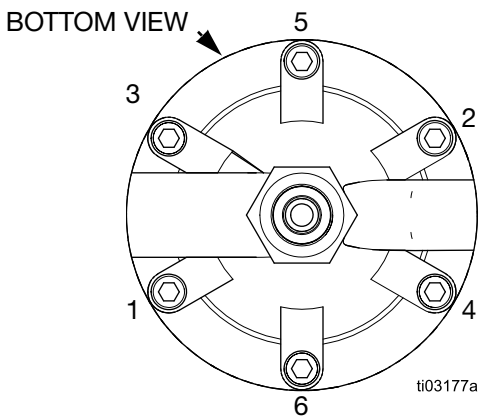

FIG. 5
6. Remove the swivel union (23) and spring (40) from the regulator body.
7. Remove the ball (20), valve seat (16), and gasket (15). See FIG. 5.
15. Torque the jam nut (13) onto the stem housing (18) to 21 -35 ft-lb (28 -47 N•m).
16. Install the valve stem (9), spring (3), gasket (21) and retaining screw (10) in the stem housing (18). Make sure the tab on the valve stem (9) fits into the slot on screw (10).
17. Torque the retaining screw (10) into the housing to 21 -25 ft-lb (28 -34 N•m).
18. Install the spring, adjusting screw (12) and cap on the housing (6). Tighten six capscrews (1) in the sequence shown in FIG. 5, **Bottom View**, and to the torque noted.
19. Install the gasket (15), valve seat (16), and ball (20) into the housing (6).
20. Screw the swivel union (23), with the o-ring (4) attached and the spring (40) in place, into the inlet. Torque to 23 -27 ft-lb (31 -36 N•m).